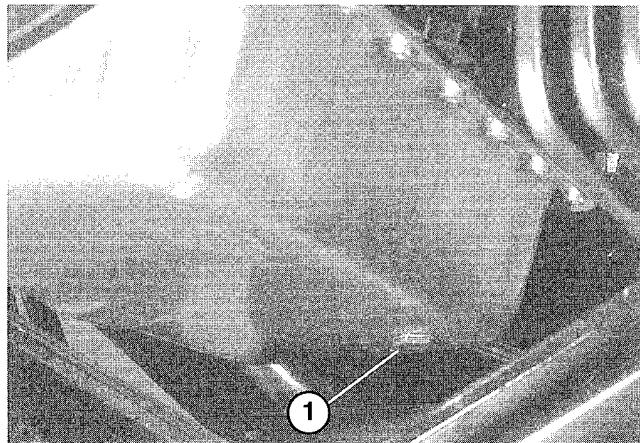

Figure 39
ENGINE OIL AND FILTER (Fig. 39–40)
1. Remove drain plug (Fig. 39) and let oil flow into drain pan. When oil stops, install drain plug and new plug seal, Part No. 74-7850.